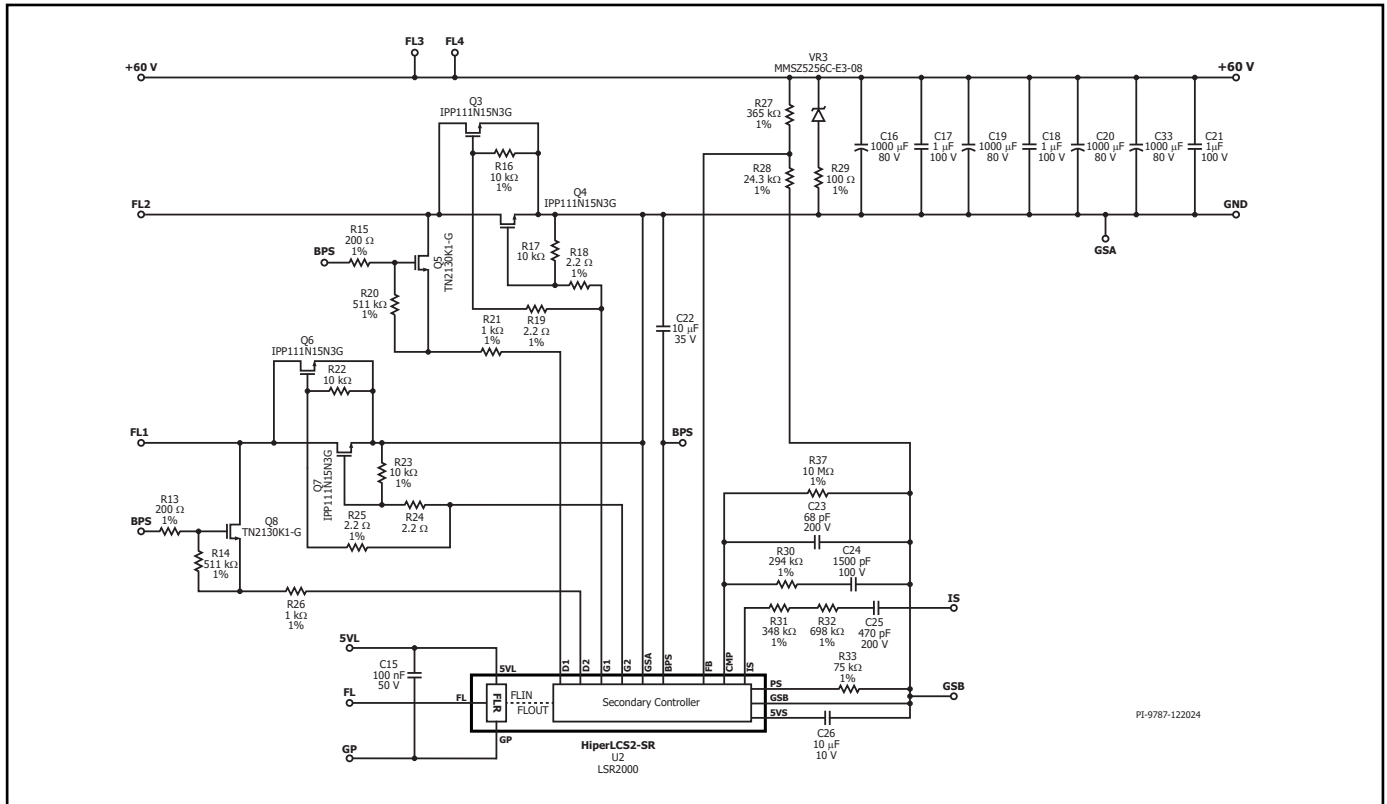

Figure 19. HiperLCS-2 Isolation and Secondary-Side 1650 W, 60 V LSR2000C.
This section describes secondary schematic Figure 19. The HiperLCS2-SR (U2) has isolated primary-side pins. Pin 5VL receives 5VL voltage from LCS2-HB (U1). Pin GP couples to primary small signal ground (GP). Capacitor C15 provides local decoupling to the 5VL and GP pins of U2. The FL pin provides a FluxLink signal to the primary HiperLCS2-HB.